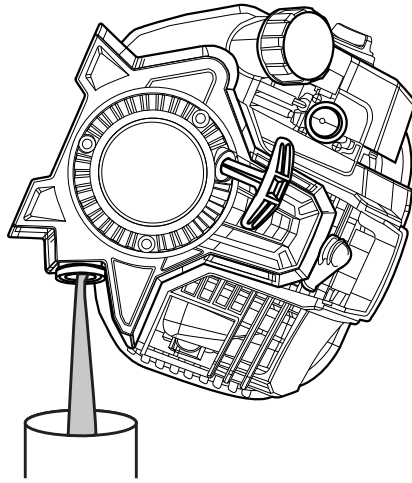

Fig. 24
3. Tip the unit vertically to pour the oil out of the oil fill hole and into a container (Fig. 24). Allow ample time for complete drainage.